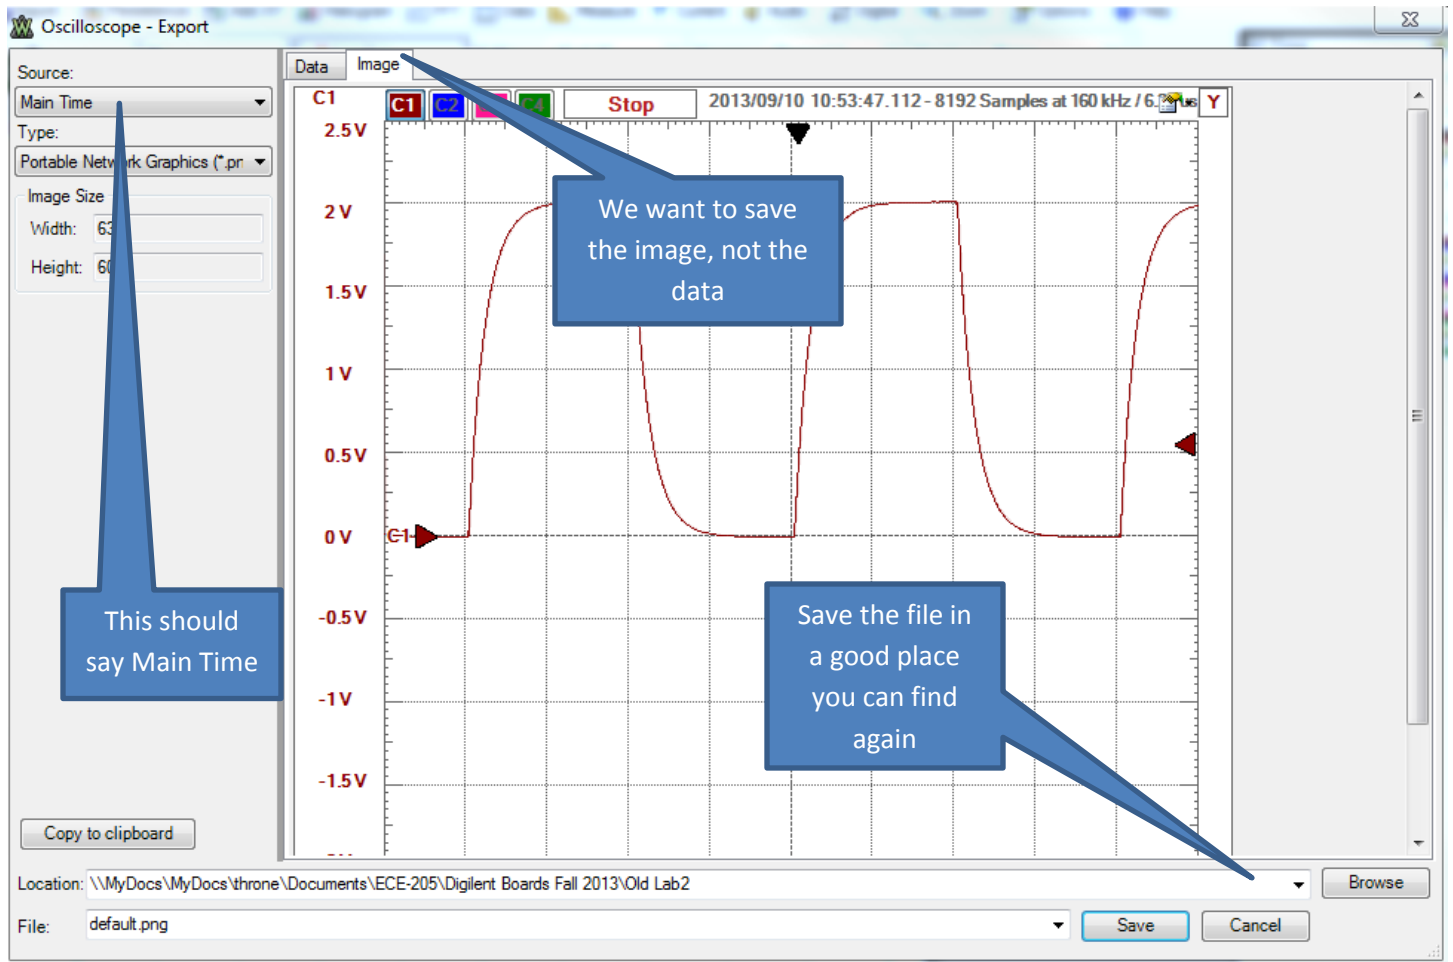

Figure 5. Saving a screen shot.
10) Next we want to capture a screen shot to put into your memo. Near the top left corner of the oscilloscope is the **Export** icon. Click on this icon, and you will get a figure somewhat like that shown in Figure 5 (See next page.) On the left you want to select **Main Time** and above the image you want to select **Image** instead of Data. Save this screen shot to a file. Then (*right now!*) include this screen shot in your memo for this lab. Do not wait to see if it all worked out! Put in a figure number and an appropriate caption.